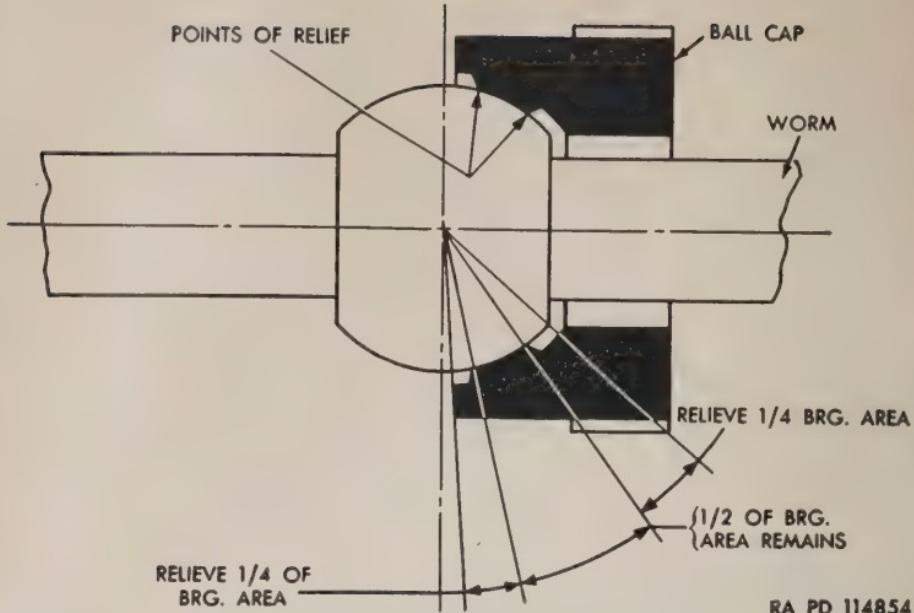

Figure 18. Points of relief on ball cap.
a. See that the spherical bearing surfaces on the ball cap and ball socket have been relieved, as shown in figure 18, before fitting these parts to the ball. If this is not done, the adjustment of the ball cap becomes very critical. Too much bearing surface on these parts tends to lock or bind the worm shaft movement when the ball cap is brought against the ball. Relieving the bearing surface reduces the